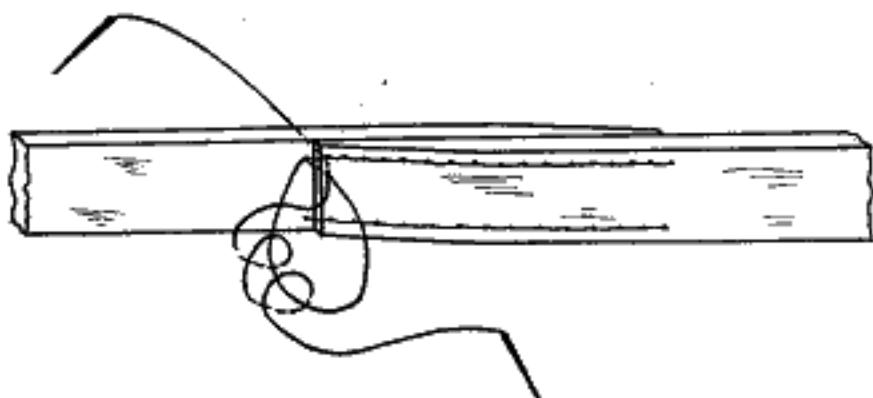

FIG. 305.—Making the lock stitch to prevent the sewing from loosening.
*Anchoring the Threads.*—To prevent the stitching from loosening, the threads may be anchored as follows: As the stitching is being finished, take one regular stitch through the single strap just beyond the splice, and then make an anchor stitch back in the double part in line with the last stitch in the double part, but about  $\frac{3}{16}$  in. in toward the center of the straps (see Fig. 305). To make this anchor stitch, place both threads